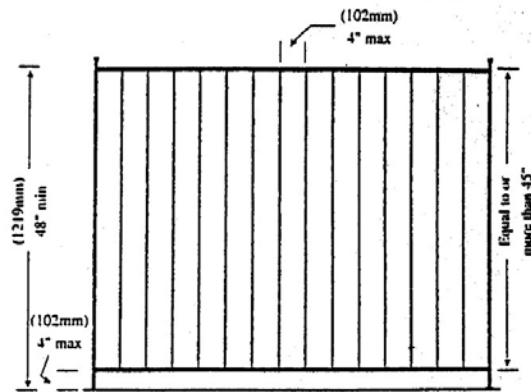

FIG. 2 IF HORIZONTAL MEMBERS ARE EQUAL TO OR MORE THAN 48" (1219mm) APART, THE SPACE BETWEEN VERTICAL MEMBERS SHALL NOT EXCEED 4" (102mm).
- (2) Where the distance between the tops of the horizontal members is 45 inches or more, spacing between vertical members shall not exceed 4 inches. (See Figure 2.)